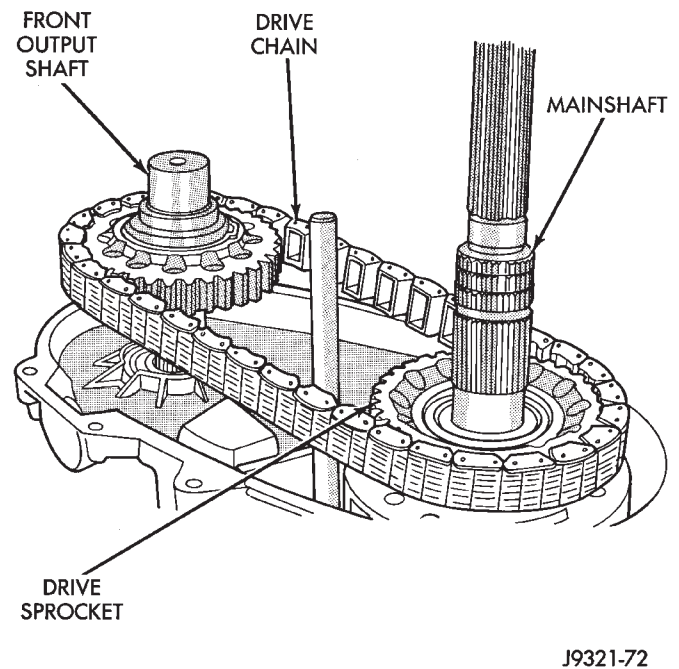

Fig. 81 Installing Drive Chain, Front Output Shaft And Drive Sprocket
(1) Lubricate front output shaft-sprocket assembly, drive chain and drive sprocket with transmission fluid.
(2) Assemble drive chain, drive sprocket and front output shaft (Fig. 81).
(3) Start drive sprocket on mainshaft.
(4) Guide front shaft into bearing and drive sprocket onto mainshaft drive gear (Fig. 81).